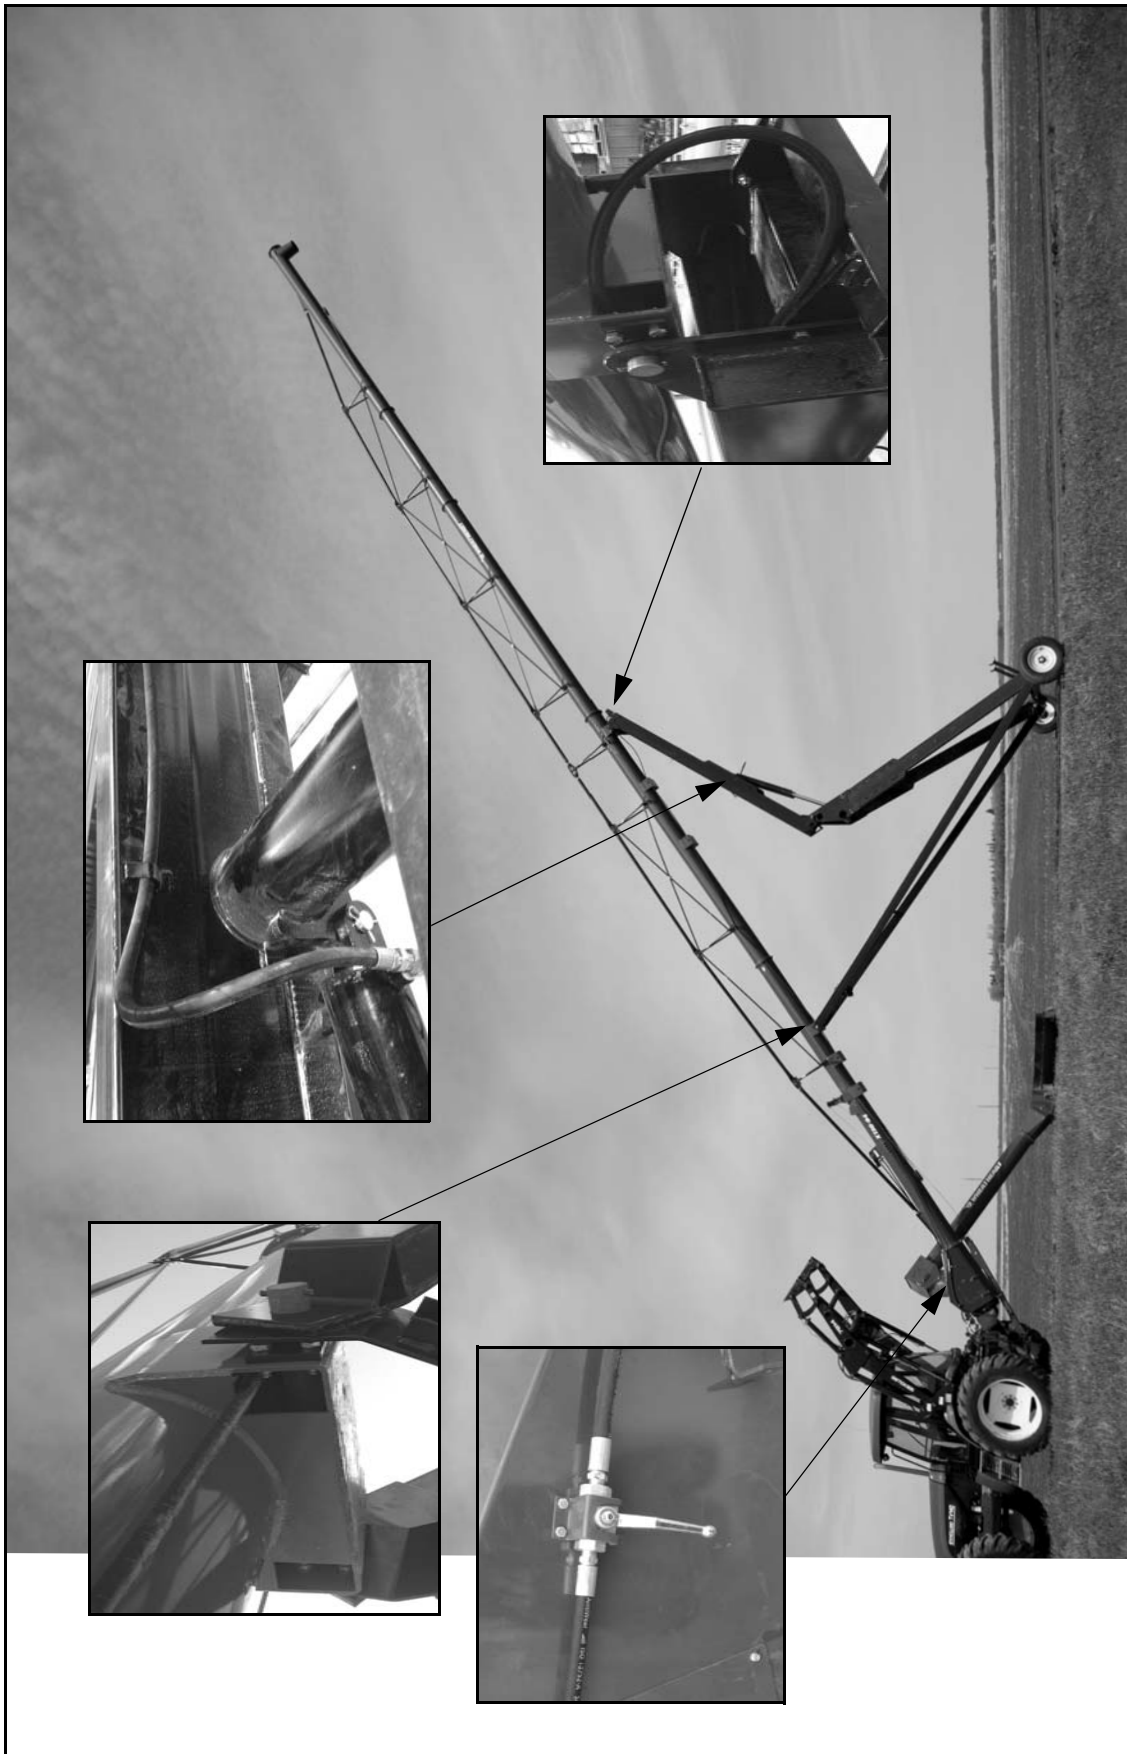

Figure 3.31 Running Hydraulic Hose Through Frame
1. Position the cylinders on the cylinder lugs. The rod end of the cylinder must be attached to the bowtie so that the rod extends towards the intake (Figure 3.31).
6. Lay the long hose along the upper scissor frame and tube (Figure 3.31).